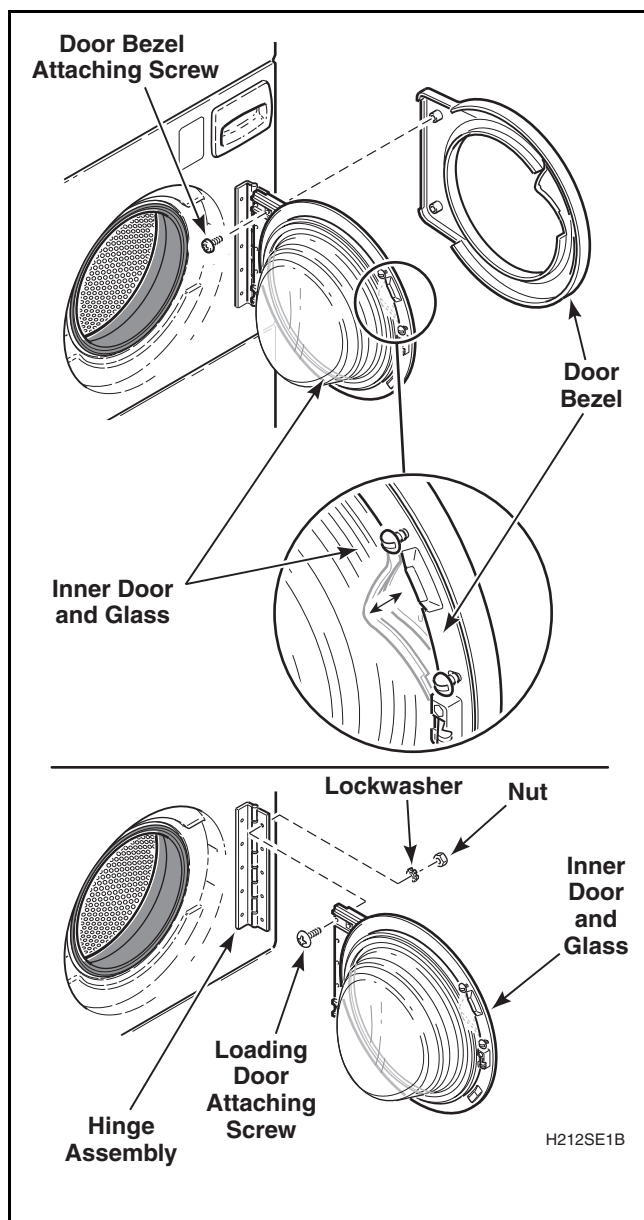

Figure 31
- Remove door bezel to gain access to nuts. Refer to *Figure 31*.
- The loading door can be adjusted up or down somewhat by loosening screws holding door to hinge, then raise or lower door before retightening screws. Refer to *Figure 31*.
- Remove door bezel. Refer to *Figure 31*.